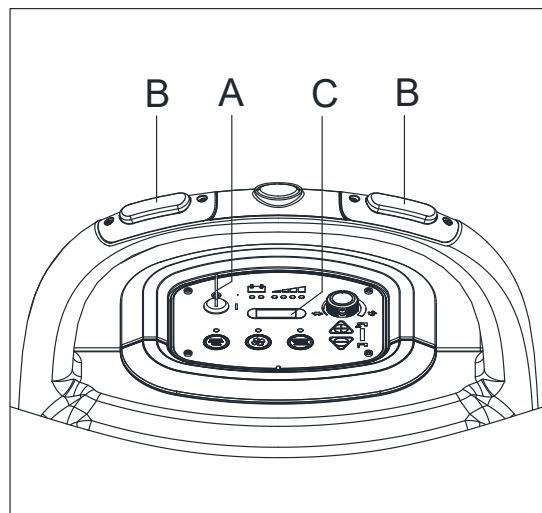

Figure 22
1. Turn the ignition key (A, Figure 22) to "I".
2. Press the switch (B), the hour meter (C) begins to work and it at the same time shows the total number of working hours (scrubbing/drying) performed by the machine.
3. Release the switch (B).
4. Turn the ignition key (A) to "0".
1. Turn the ignition key (A, Figure 22) to "0".